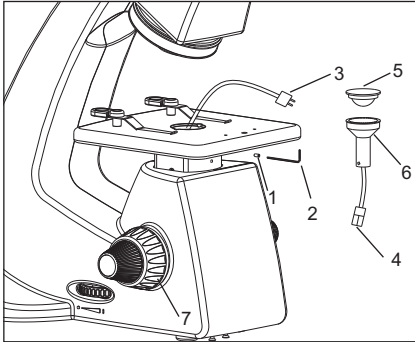

Fig. 8
1. Raise the stage to the highest position by rotating the coarse focus knob (7) clock wise. See figure 8.
2. Use allen key 3mm (2) to unlock the screw (1) from the stage to unsecure LED assembly.
3. Detach the LED assembly from connectors (3 & 4) by gently pulling them apart. Secure the lower part of the connector (3) with the stage clip to avoid it from slipping inside.
4. Remove the condenser system (5) by rotating it anti clockwise.
5. Remove the LED assembly (6) and replace with new LED assembly.